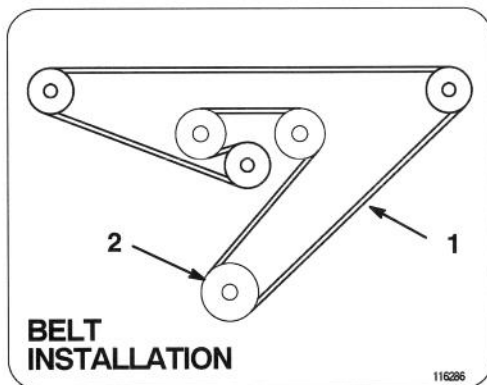

Figure 6
9. Pull on idler pulley 42" (or lever 48") to relax belt tension and install mower drive belt into the top, or single engine drive pulley groove (Fig. 6).